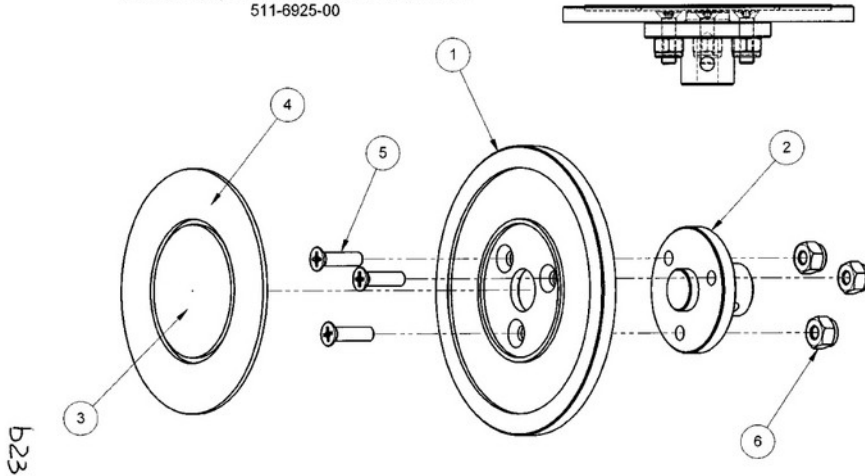
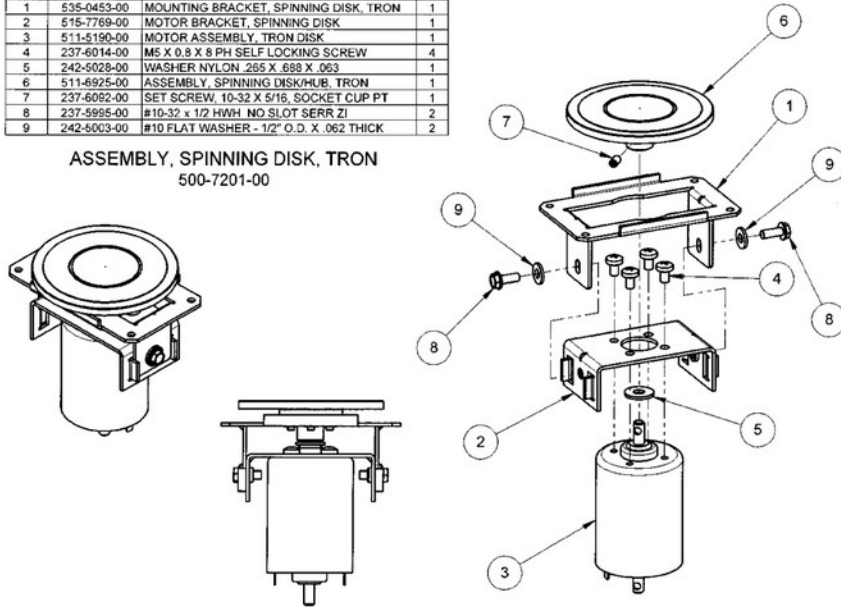

Figure 5
Figure 6
1. Carefully remove the top center rubber disc adhesive pad to expose the disc mounting screws. See Item 3 of **Figure 5**. The adhesive on the rubber pad can be removed by rubbing it off with your thumb. Set the rubber pad aside for later use.
2. Remove the three disc mounting screws and associated 8-32 nylon lock nuts using a 11/32" wrench and Phillips head screwdriver. See Items 5 and 6 of **Figure 5**. Space is tight, and you will find it's helpful to find a spot with the most room to reach in and hold the nuts. Spin the disc as necessary to reach the remaining two nuts from the same location. *Note: Loosening the two side assembly height adjustment screws using a 5/16" wrench will allow you to pull the top portion higher out of the way to make more room to access the disc nuts. See Item 8 of **Figure 6**.* The adhesive on the plastic disc will need to be carefully removed with a razor blade or some other sort of scraping tool. Set the plastic disc aside for later use.
1. Completely remove the two side assembly height adjustment screws using a 5/16" wrench to allow separation of the top portion of the spinning motor assembly. See Items 8 and 1 in **Figure 6**.
2. Make final disc height adjustment as level as possible to the playfield surface by moving the top bracket up and down as necessary then fully tightening the two height adjustment screws using a 5/16" wrench. See Item 8 of **Figure 6**.